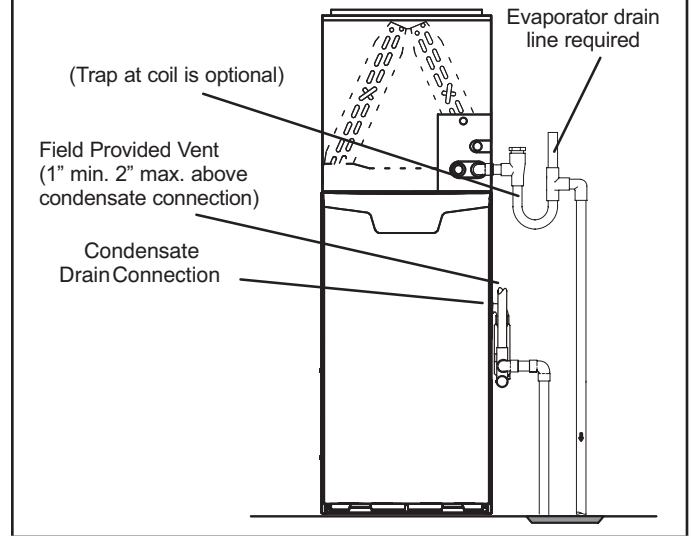
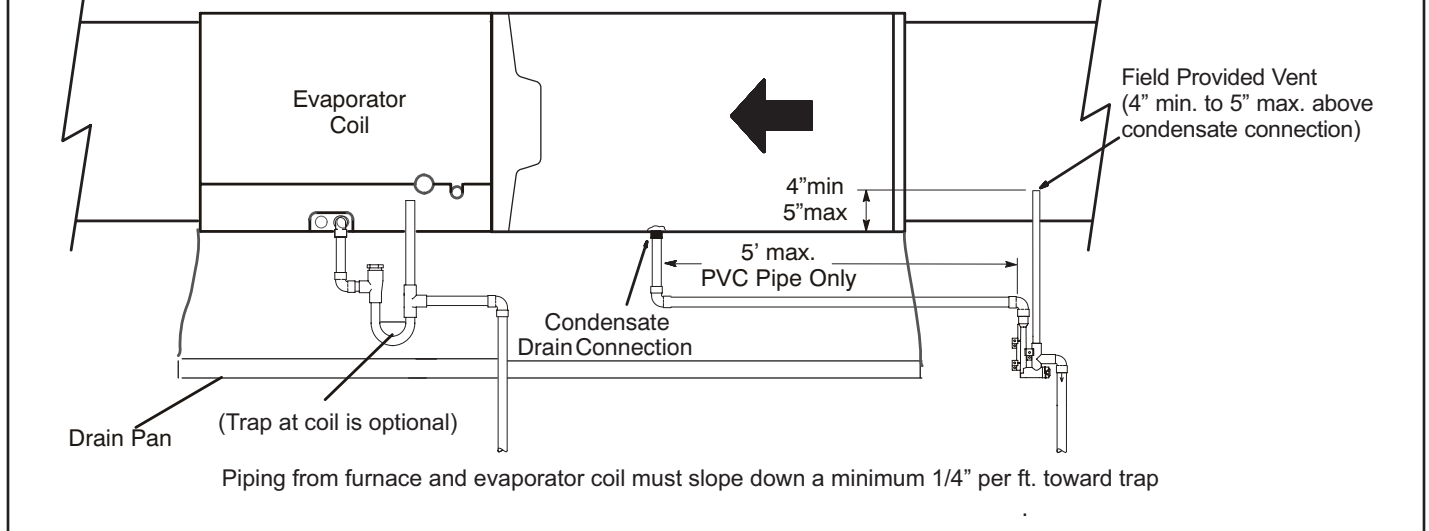
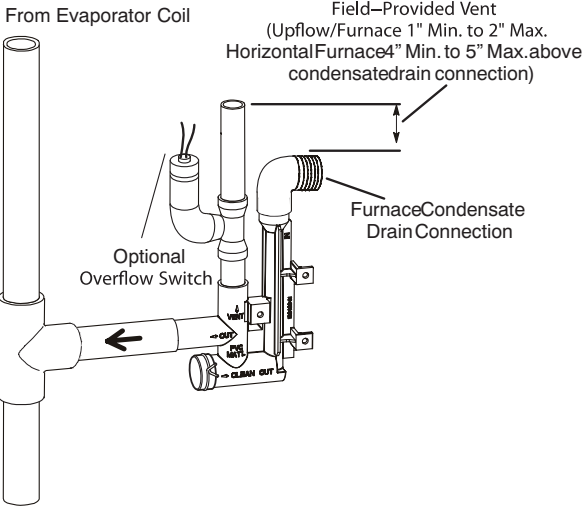

FIGURE 44
FIGURE 45
FIGURE 46
- 5 - FIGURE 44 and FIGURE 45 show the furnace and evaporator coil using a separate drain. If necessary the condensate line from the furnace and evaporator coil can drain together. See FIGURE 46, FIGURE 47 and FIGURE 48. **Upflow furnace (FIGURE 47)** - In upflow furnace applications the field provided vent must be a minimum 1" to a maximum 2" length above the condensate drain outlet connection. Any length above 2" may result in a flooded heat exchanger if the combined primary drain line were to become restricted.